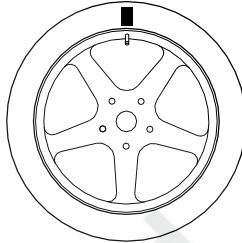

Fig. F5.4 - Marking of the valve position on the tyre
- Bring the valve to the 12 o'clock position, mark the valve position on the tyre (see figure F5.4);
8. Rotate the wheel until all position arrow LEDs light up and then mark the 12 o'clock position as shown in figure F5.4;